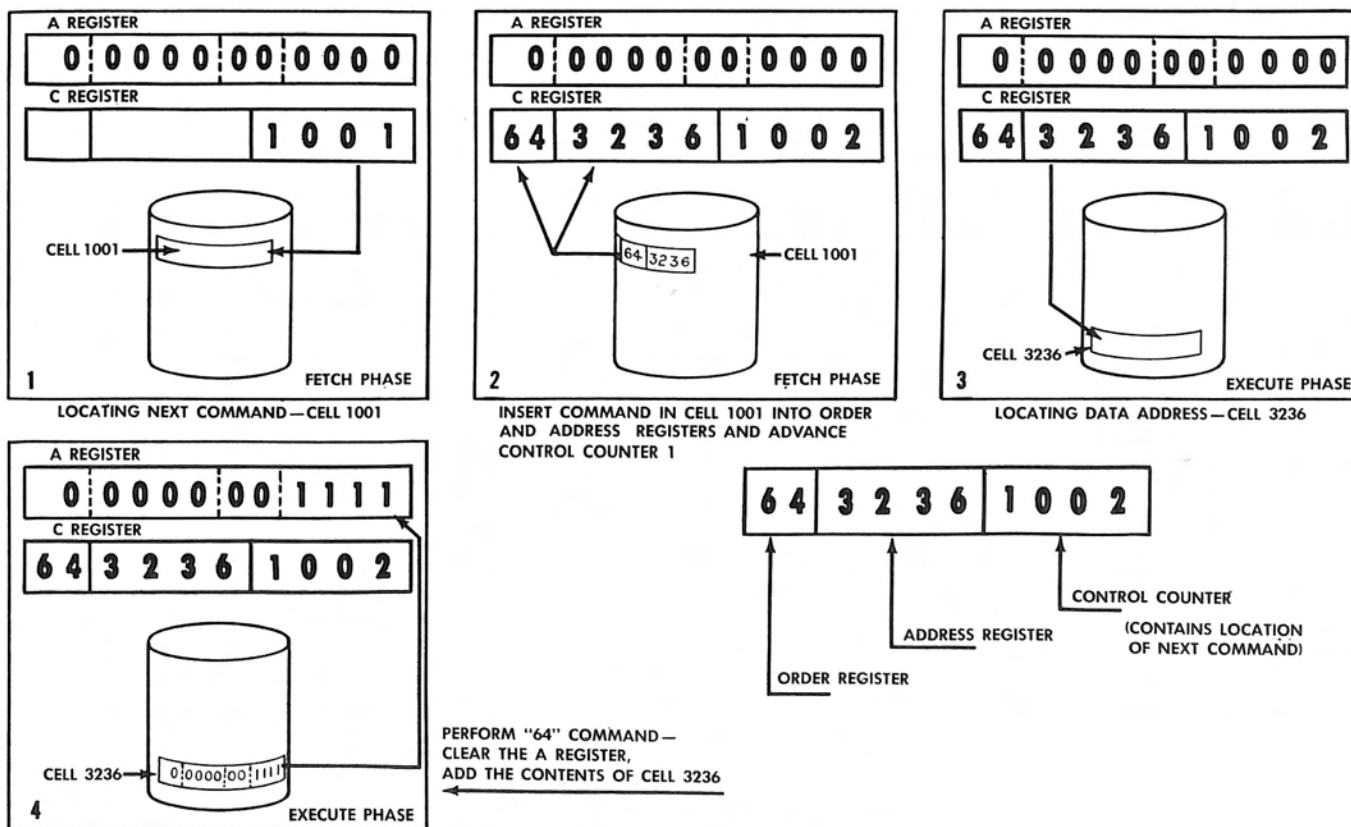

Figure 10 Action of Control Counter
**C Register** receives each command from the magnetic drum through the D Register (Figure 10). The function of this register is to start the operation of the control component of the DATATRON.
the Control Counter will read 1001. When the command stored in cell 1001 is being executed, the Control Counter will read 1002 (Figure 10).